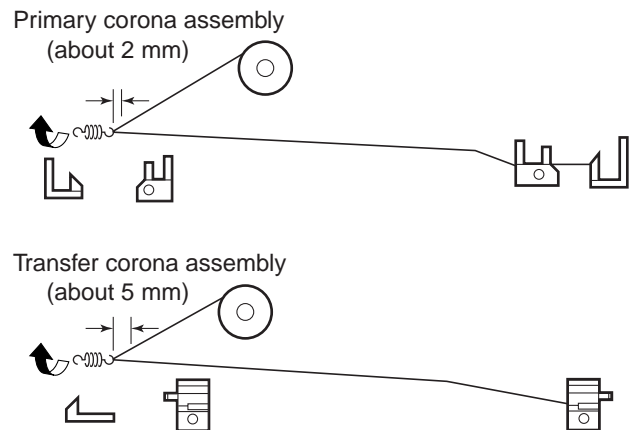

Figure 4-811
- 5) Hook the loop of the corona wire as shown in Figure 4-811, and lead the wire along the V-groove of the height adjusting roll. Hook the corona wire tension spring on the corona wire, and twist the spring three to four times as shown.